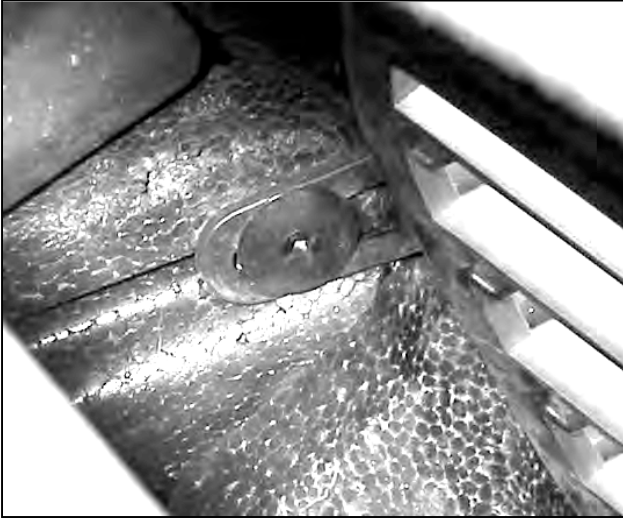

Figure 4. Square head fastener; located on lower outer edge of each grille.
1.4) Remove the remaining fasteners. Additionally, there are 3 fasteners on the bottoms of each grille: one plastic screw with a square head **Fig. 4**, and two Phillips head screws (these are revealed by pulling the bumper away from the vehicle). The square fastener does not require a tool to remove. By turning the head with your fingers the screw will come out.